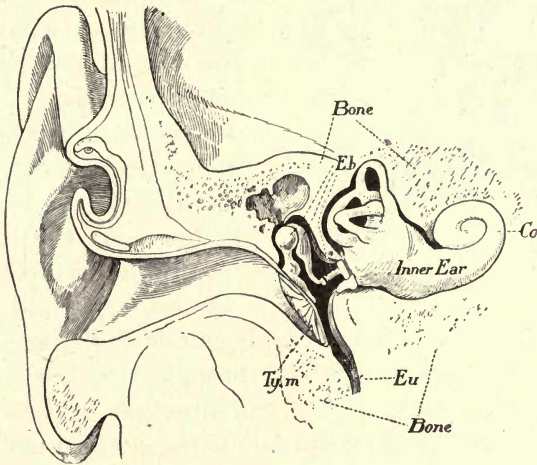

FIG. 192.—The Human Ear Shown in Section. *Co*, Cochlea (location of real hearing organ); *E.b*, Ear Bones; *Eu*, Eustachian Tube; *Ty.m*, Tympanic Membrane.
**The Hearing.** — Sound is transmitted from a vibrating object to the ear by waves in the air. The ear is the organ of hearing. For convenience in description it is divided into three parts, the **external ear**, the **middle ear**, and the **inner ear**. (Figure 192.)